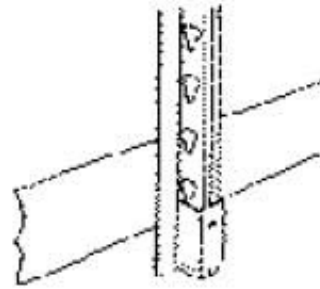

Figure 6
1. Use a U-clip to join the sections together at the bottom posts (under bottom shelf) Figure 6.